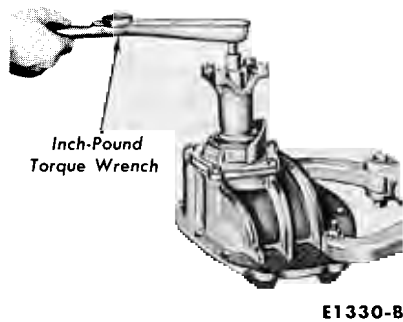

FIG. 51—Checking Pinion Bearing Pre-load
11. Check the pinion bearing preload as shown in Fig. 51. If an inch-